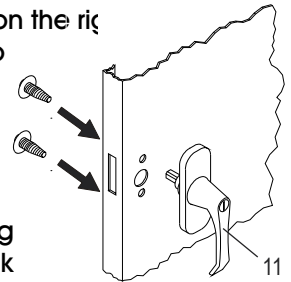

Figure 10
1. Place the locking handle (11) on the right hand door and fasten with two #8-32 x 1/4 slotted hex-head bolts and lockwashers. (See Figure 10)